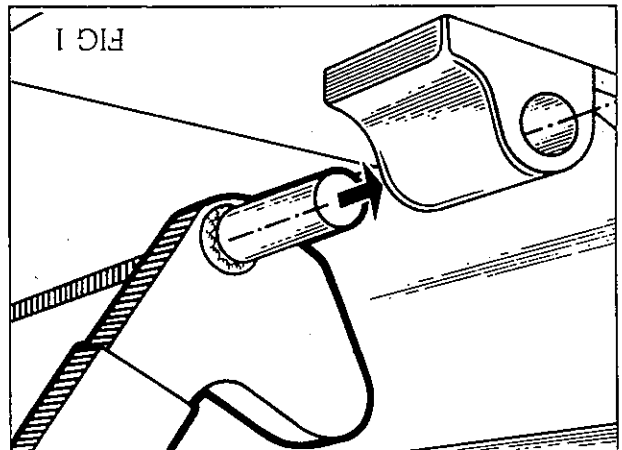

FIG 1
- The pin of the 'Pansetter' is inserted in the bore of the Pandrol Shoulder (Fig 1).